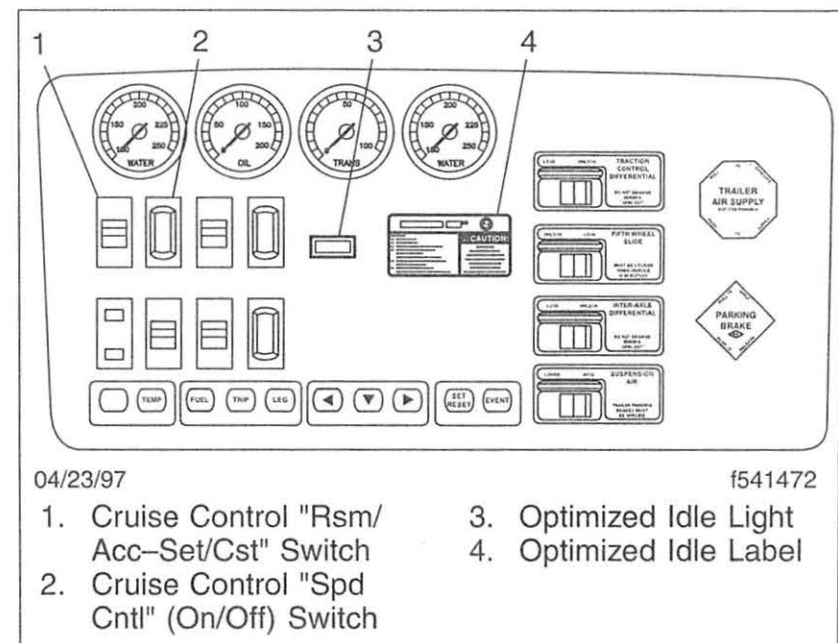
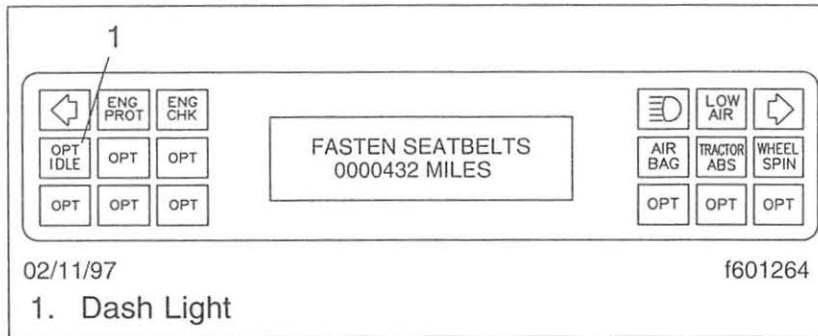
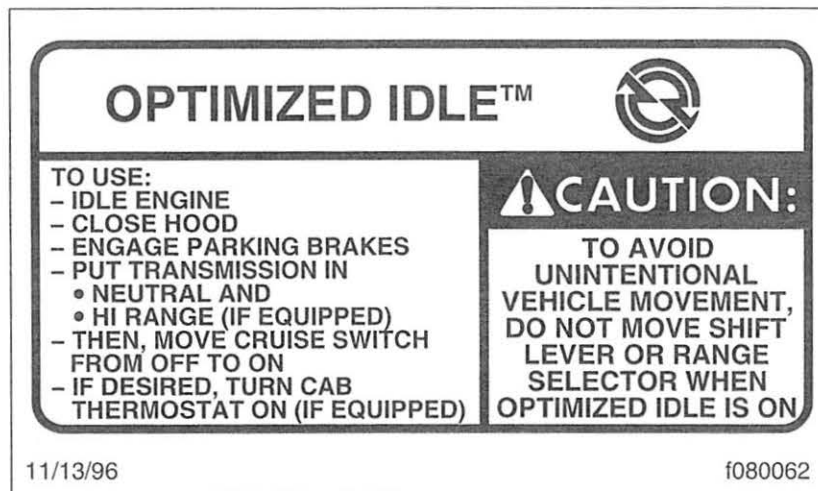
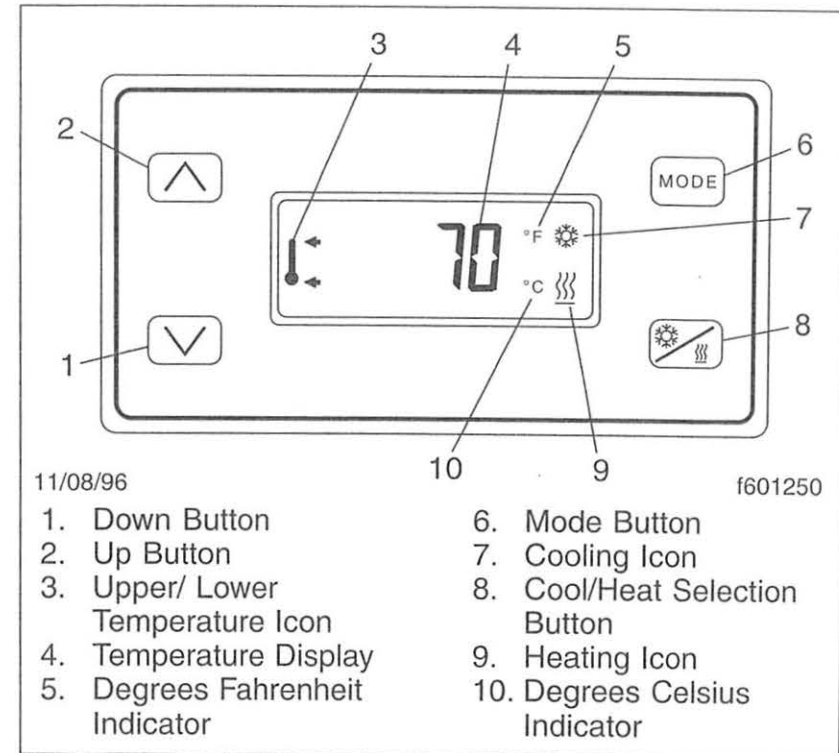

Fig. 7.4, Dash Light, Vehicles Built Before January 1997
Fig. 7.5, Dash Light, Vehicles Built After January 1997
Fig. 7.6, Optimized Idle Dash Label
Fig. 7.7, Optimized Idle Thermostat
Vehicles equipped with Optimized Idle have a label and a dash light. On vehicles built before January 1997, the dash light is on the "B" panel of the dashboard. See **Fig. 7.4**. On vehicles built after January 1997, the dash light is on the dash message center, on the "A" panel. See **Fig. 7.5**. See **Fig. 7.6** for the dash label detail. If equipped with the thermostat mode, a thermostat is located in the sleeper, above the bunk. See **Fig. 7.7**.
- 2.2 Turn on the thermostat by touching any of the four buttons. See **Fig. 7.7**.